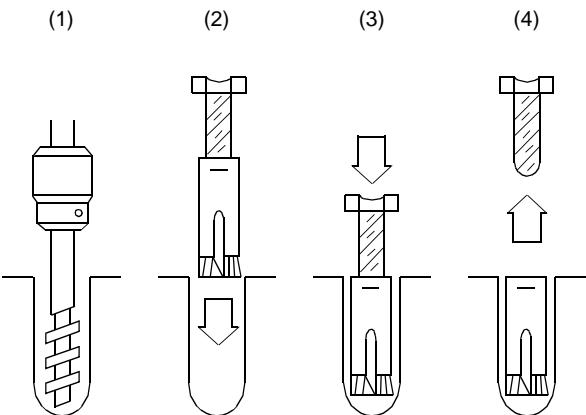

**Figure 002-2 Wall Mounting Points**
- Locate and mark the wall mounting points as shown in Figure 002-2.
- (1) Using four appropriate fasteners (locally provided; see Table 003-1) for the type of wall constructions, secure the RACK PARTS as shown in Figure 003-4. For the wall mounting points, refer to Figure 002-2 in NAP-200-002.